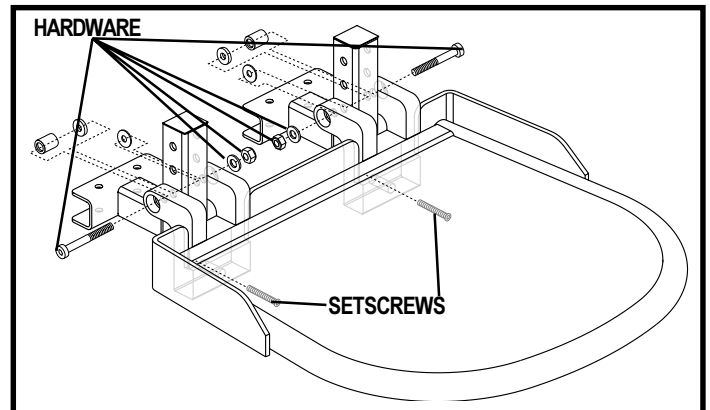

Figure 14. Foot Platform Adjustment
1. Remove the hardware from the foot platform bracket. See figure 14.
You can adjust the angle of the foot platform with a hex key. See figure 14.